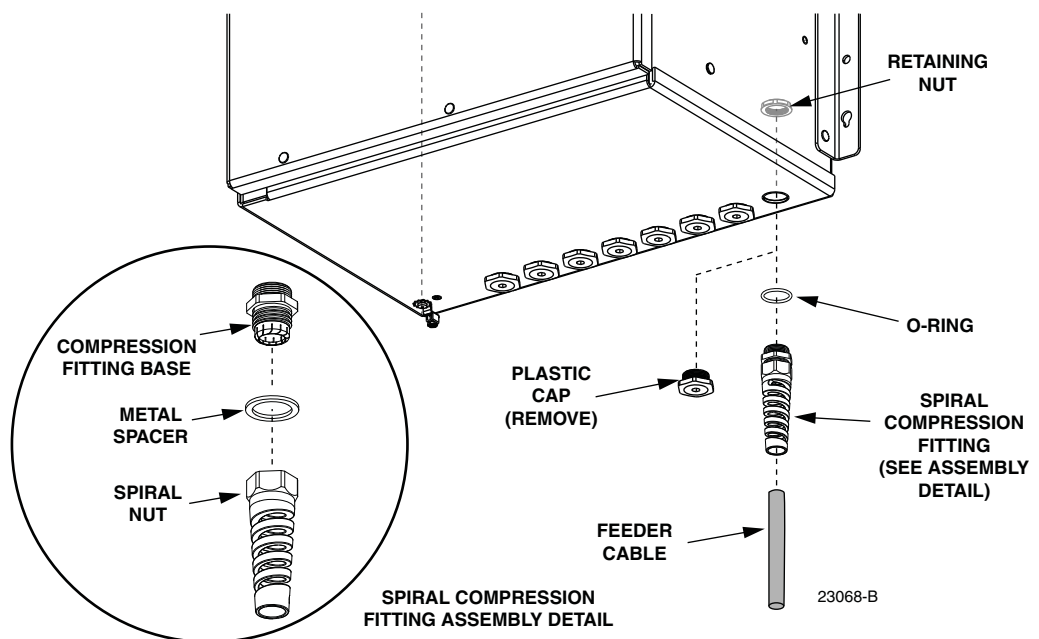

Figure 30. Plastic Cap Removal and Compression Fitting Installation
14. Remove the plastic cap and retaining nut from the feeder cable entry/exit hole as shown in Figure 30. Save the retaining nut for reuse.
15. Locate the spiral compression fitting components that are shipped with the cabinet and loosely assemble the fitting as shown (see Figure 30).